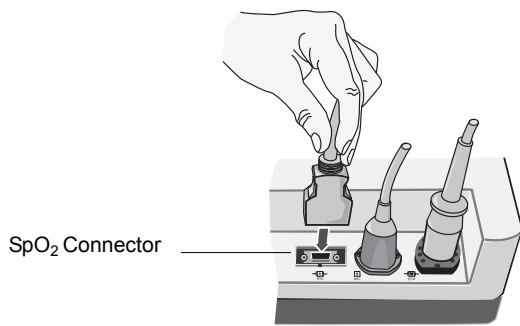

Figure 2
4. Connect the patient cable to the SpO₂ connector at the back of the E Series unit (see Figure 2).
6. Connect the SpO₂ patient cable to the SpO₂ connector on the back of the E Series unit as shown in Figure 2 on page 4.
8. Connect the SpO₂ patient cable to the SpO₂ connector on the back of the E Series unit as shown in Figure 2 on page 4.